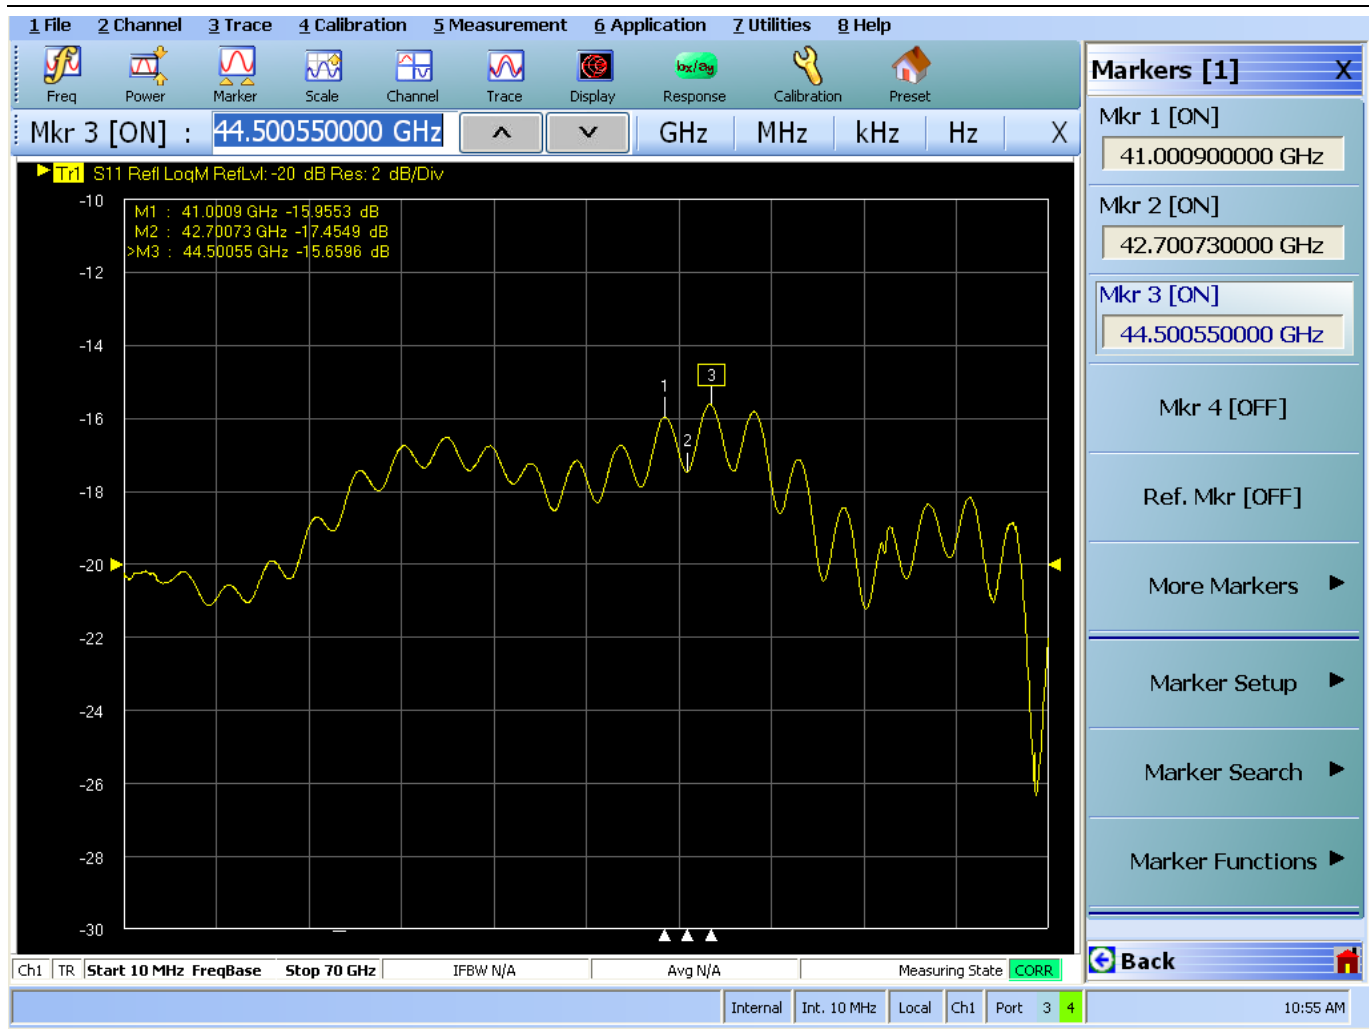

Figure 3-6. Log Mag Display
63. Using the mouse to move Mkr 1 and Mkr 3 to adjacent peaks of the ripple with the greatest negative trough (or adjacent troughs if the ripple has the greatest positive peak) in the frequency band of interest as shown in Figure 3-6 on page 3-9 below. For frequency band information, in Appendix A, "Test Records", refer to either: